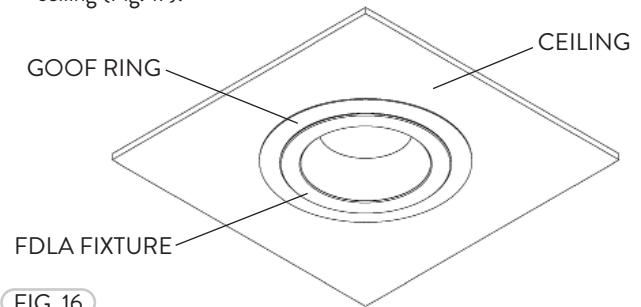
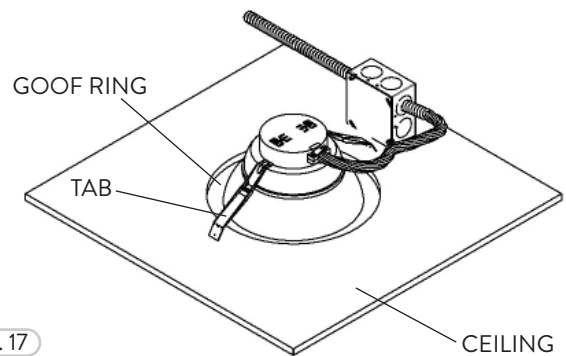

FIG. 16
FIG. 17
- 5 Press the FDLA Fixture with the Goof Ring up against the ceiling (Fig. 16). Release the retention Tabs to secure the FDLA Fixture to the ceiling (Fig. 17).